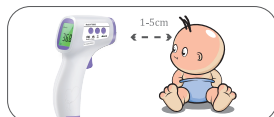

Figure 2:Measuring position and distance
- The thermometer is aligned with the middle of the forehead to measure body temperature (between the eyebrows above) and keep the vertical distance, press the On/measure button, temperature display immediately, see figure 2.
|  | Measured over the distance:1-5cm (0.4-2in) Incorrect test position. | Optimum measurement distance is 1cm See figure 2 Measuring position and distance. |